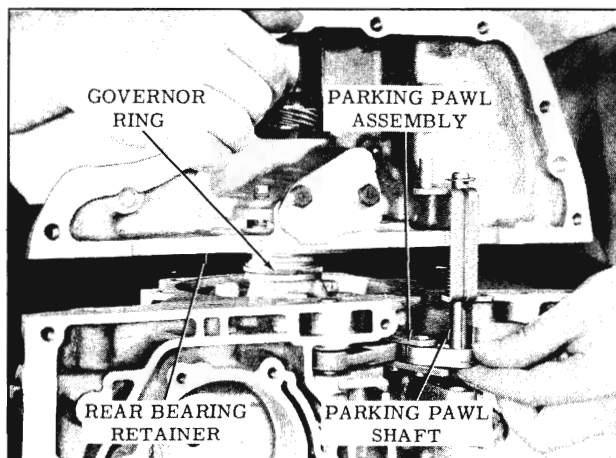

Fig. 3-306 Installing Rear Bearing Retainer
- 30. Install rear bearing retainer over output shaft, guiding parking pawl shaft into the parking pawl assembly. (Fig. 3-306)